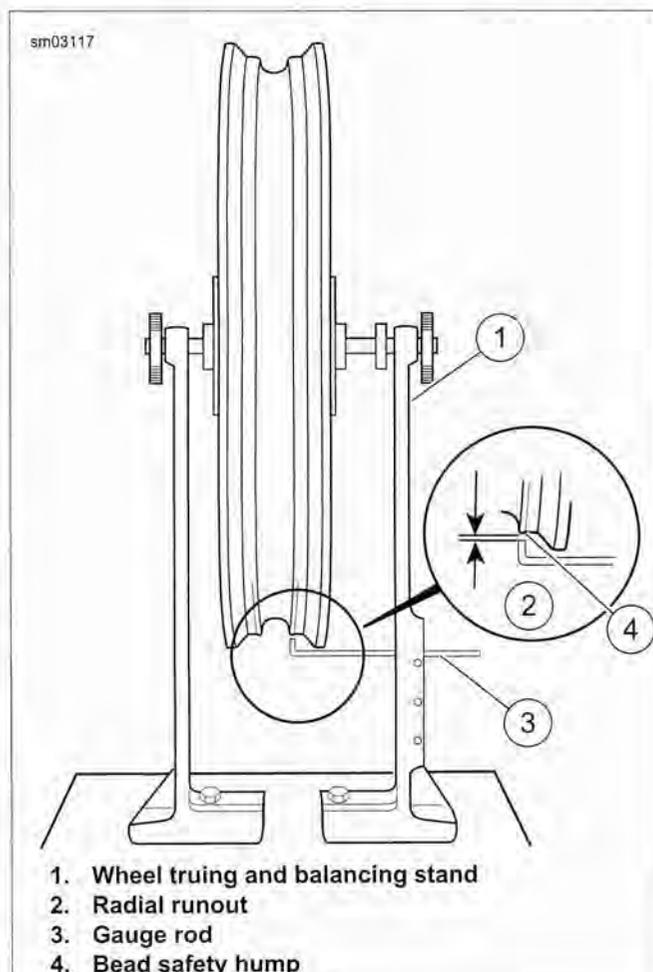

Figure 2-34. Checking Radial Runout
- See Figure 2-34. With the wheel mounted in WHEEL TRUING STAND (Part No. HD-99500-80), adjust the truing stand gauge (3) near to the rim's tire bead safety hump (4). If using a dial indicator, place the tip on the safety bead hump.